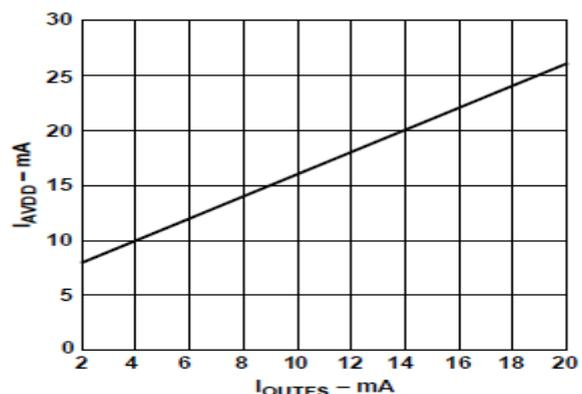

Figure 18. I_{AVDD} vs. I_{OUTFS}
The power dissipation, PD, of the 3PD9708(E) is dependent on several factors, including: (1) $AVDD$ and $DVDD$, the power supply voltages; (2) I_{OUTFS} , the full-scale current output; (3) f_{CLOCK} , the update rate; (4) and the reconstructed digital input waveform. The power dissipation is directly proportional to the analog supply current, I_{AVDD} , and the digital supply current, I_{DVDD} . I_{AVDD} is directly proportional to I_{OUTFS} , as shown in Figure 18, and is insensitive to f_{CLOCK} .